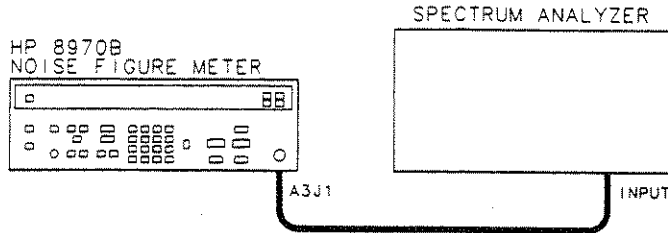

Figure 5-1. 280 MHz Oscillator Adjustment Setup
3. With all equipment power off, connect the equipment as shown in Figure 5-1.